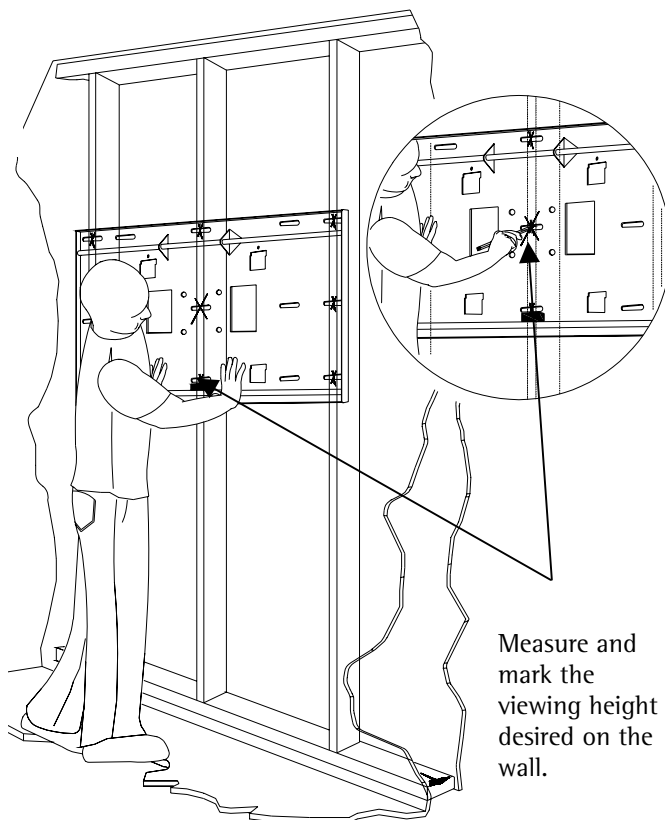
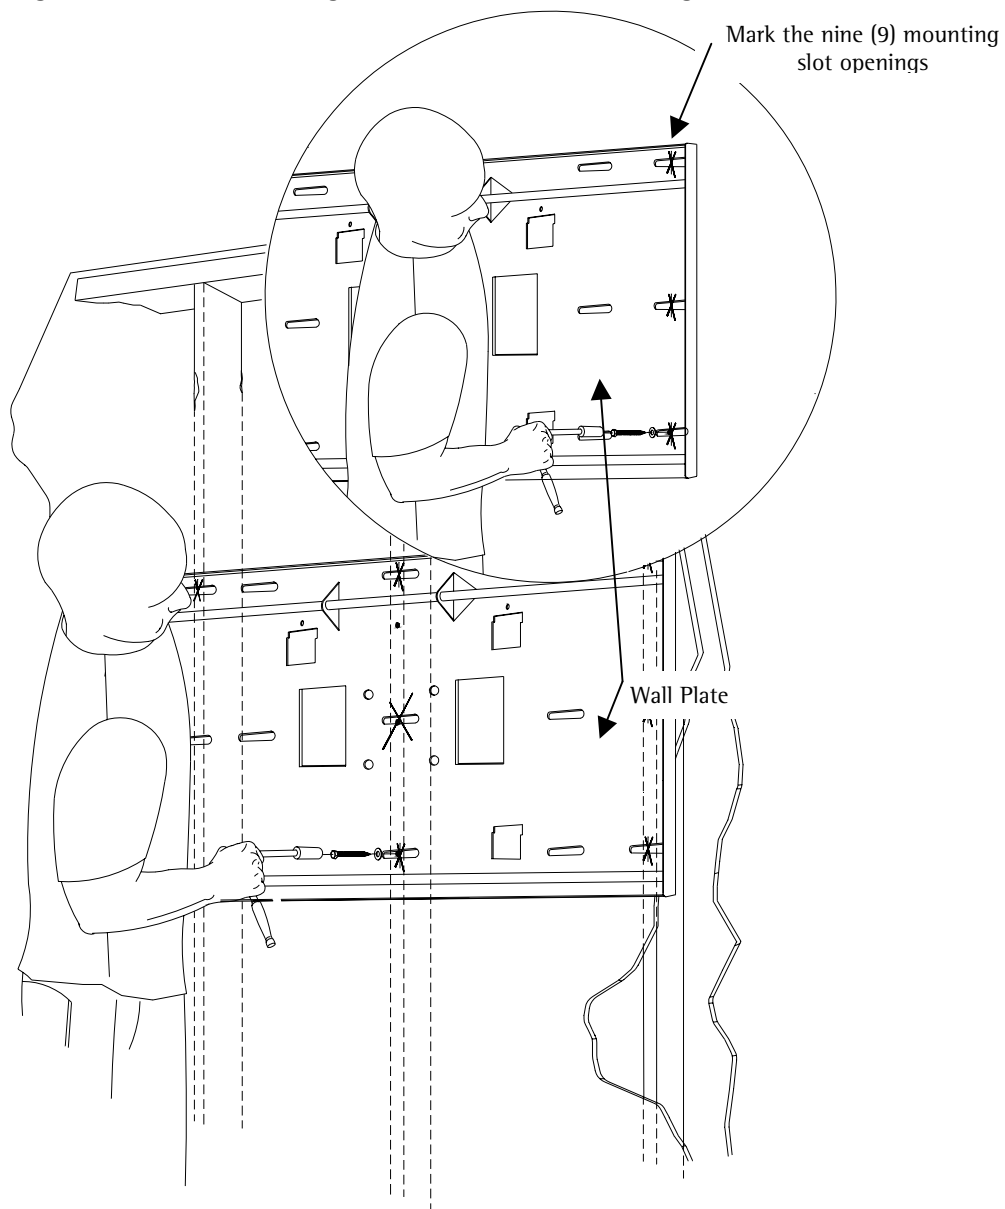

Figure 13
Figure 14. Wood Installation
2. Once found, make a pencil marking on the center of the wood studs (Figure 13).
6. Level the wall plate with the reference arrow pointing up to the ceiling (Figure 13).
7. Drill nine (9) $\frac{1}{4}$ " pilot holes to the marked wall.
8. Secure the plate using the nine (9) $\frac{5}{16}$ " lag bolts and flat washers (Figure 14).